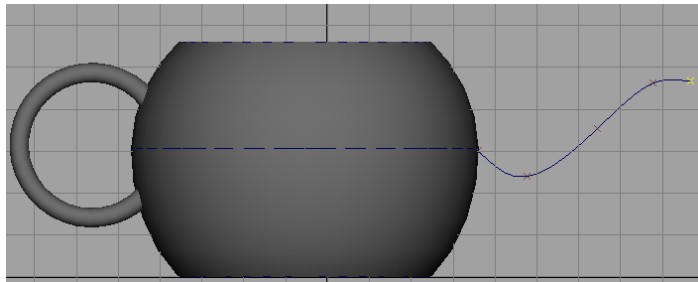

*Figure 3-70 Handle aligned with the teapot*
5. Choose the **Four View** button from the Tool Box to switch to four views. Move the cursor to the persp viewport and then press the SPACEBAR key to maximize the persp viewport. Press 5 to view the surface in shaded mode. Choose **Move Tool** and **Rotate Tool**, if required. Next, align the handle on the body of the teapot, as shown in Figure 3-70.